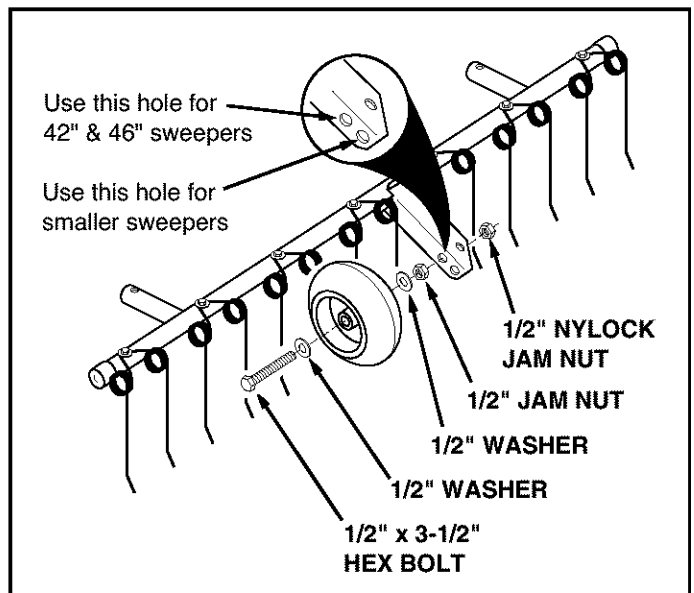

FIGURE 2
- (1) Knife
- Assemble a 1/2" washer, the wheel, another 1/2" washer and the 1/2" plain jam nut onto the 1/2" x 3-1/2" hex bolt. See figure 2.
- Insert the bolt through the welded bracket and assemble the 1/2" nylock jam nut onto the bolt. Adjust the nuts so that there is no end play in the wheel and then tighten the nuts securely against the welded bracket. Make sure the wheel still turns freely. See figure 2.
- The operating height of the dethatcher is controlled by the gauge wheel at the front of the dethatcher and is not adjustable. The correct wheel position was determined in figure 2 when you assembled the wheel.